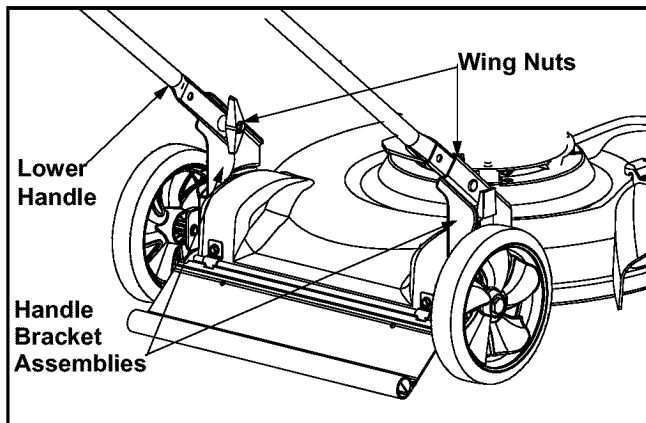

Figure 10
- Disconnect the handle from the handle bracket assemblies by removing the wing nuts. See Figure 10.